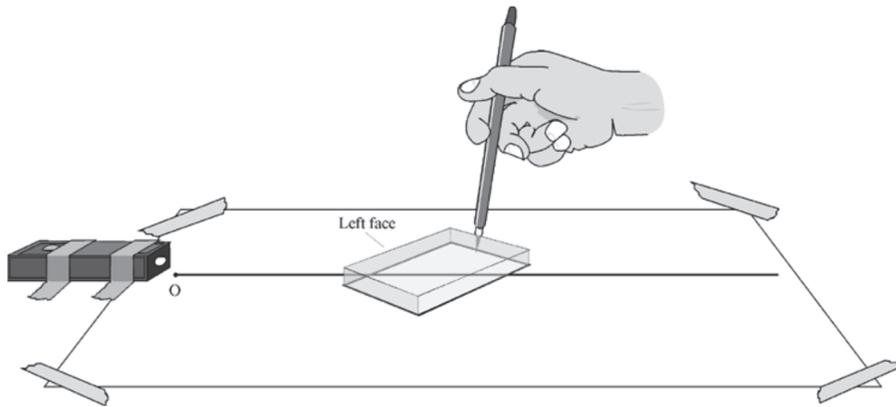

Figure 4 – Acrylic Block Set-up Illustrated
- Place the acrylic block (LI-2) with the large surface down. The left face of the block should intersect the line on the paper at a 40- to 50-degree angle, and the light beam should hit the left face about 1 cm from its lower left corner. Hold the block firmly in place and draw an outline of the block on the paper. Refer to Figure 4.